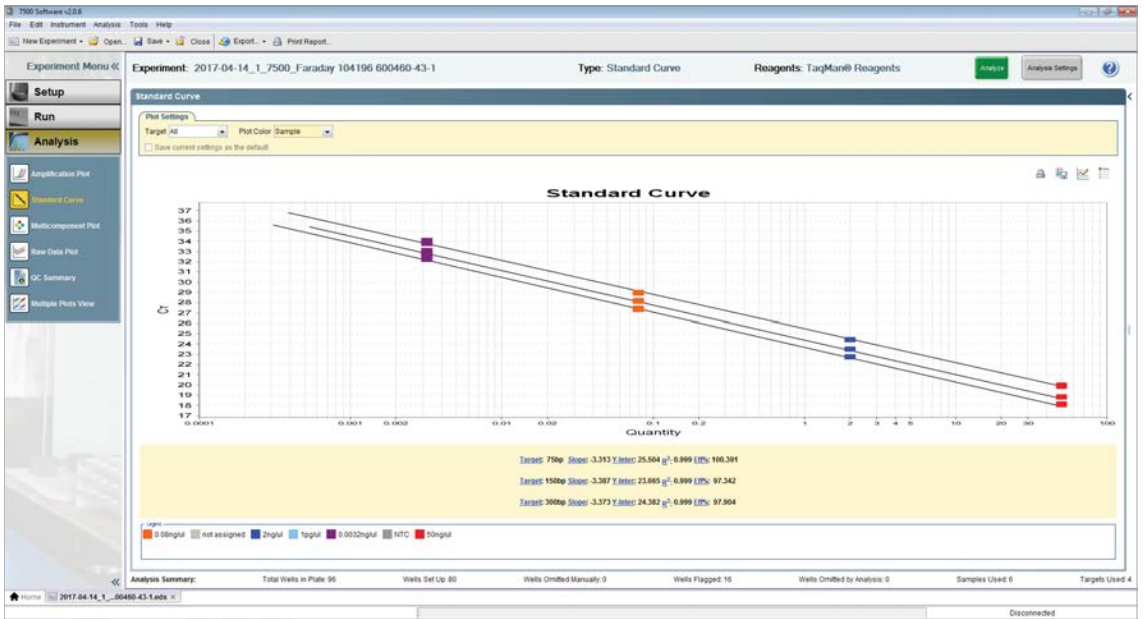

Figure 9. Displaying the standard curve for 75bp, 150bp and 300bp targets.
3. To display standard curves, select “Standard Curve” from the Analysis menu in the left side panel. Display the standard curve for each target by selecting it from the Target drop-down menu (Figure 9).